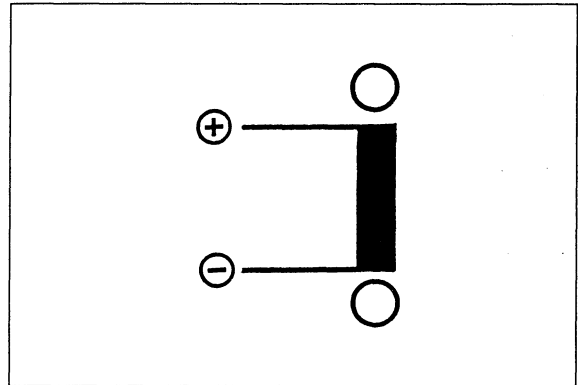

Fig. 2 Symbol for a coil with connection option 1
In Fig. 2, write in the letters N and S to show where the north and south poles are.
10. Which magnetic pole is on the side of the coil connected to the \oplus terminal when the coil is wound clockwise? To find the answer, just look at Fig. 2 and 3 in the experiment log.